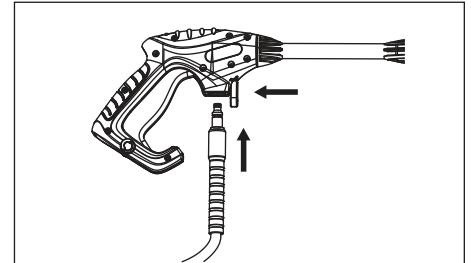

Figure 4 - Attach high pressure hose to gun
2. Attach high pressure hose to gun (see Figure 4).